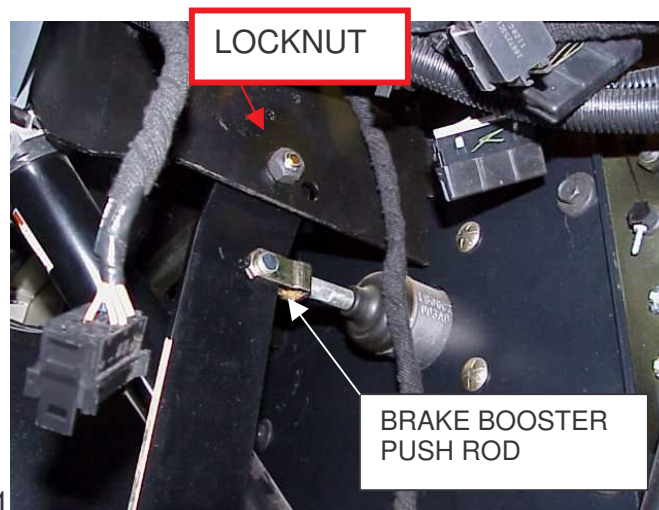

Figure 1
See Figure 1 for location of locknut in a bus.
1. Inspect the locknut. The locknut is located on the right hand side of the pivot bracket, above the brake pedal. **Do not confuse this locknut with the nut on the brake booster push rod below it.** See Figure 1.